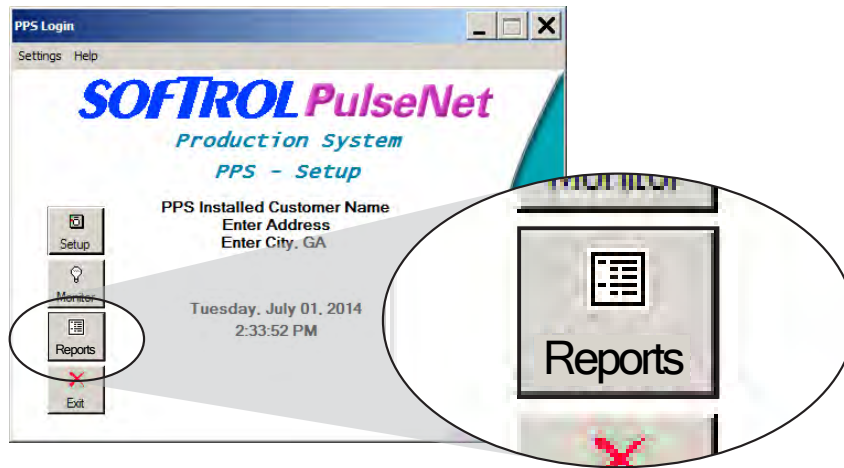

Figure 59. PPS Monitor Setup home screen: Reports Button.
1. Open reports by clicking the **Reports** button (see Figure 59) in PPS Monitor (or use the URL provided to you).